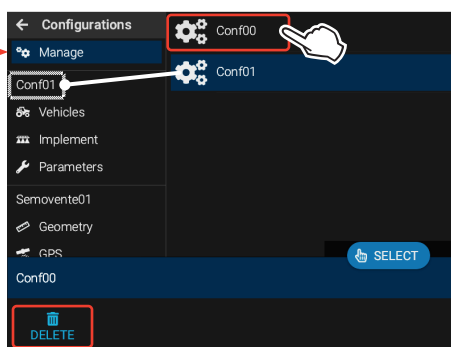

Fig. 22
- Press the configuration to be deleted (Fig. 22).